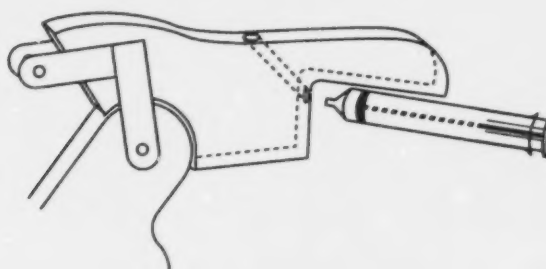

Figure 20 - Placement of Tubing
38. Using a sharpened dowel make a hole in the forearm (#5) for the tubing that operates the gripper to go through. Do not go through the narrow part of the arm because that will reduce its strength. (Figure 20)